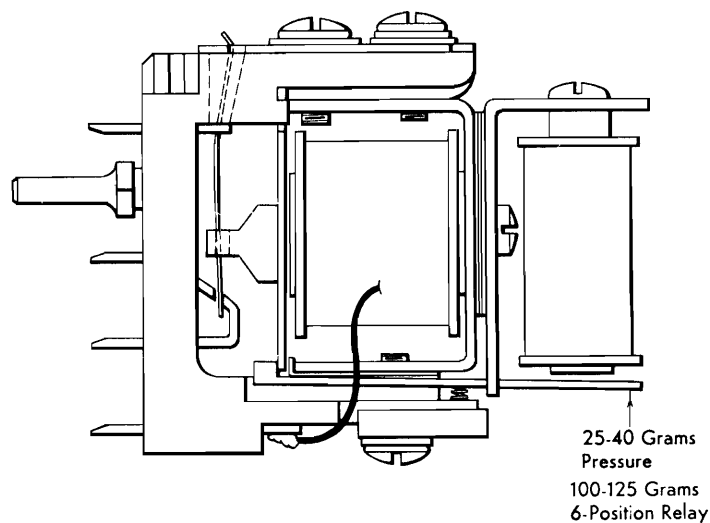

Figure 29. Adjustment 10
10. Figure 29. The latch should release the relay armature from its latched position when a pressure of 25 to 40 grams is applied to the extreme core end of the latch armature. The latch on the 6-position relay will require a pressure of 100 to 125 grams.